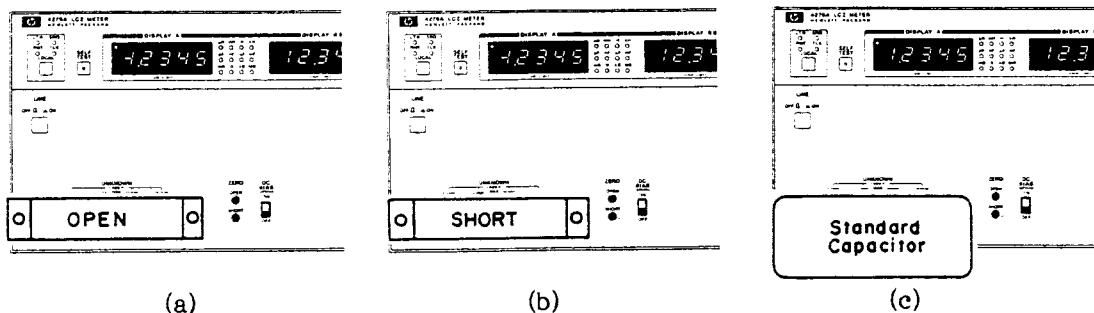

Figure 4-6. Inductance Accuracy Test Setup.
3. Connect the 1000pF standard capacitor directly to the UNKNOWN terminals. See Figure 4-6 (c).